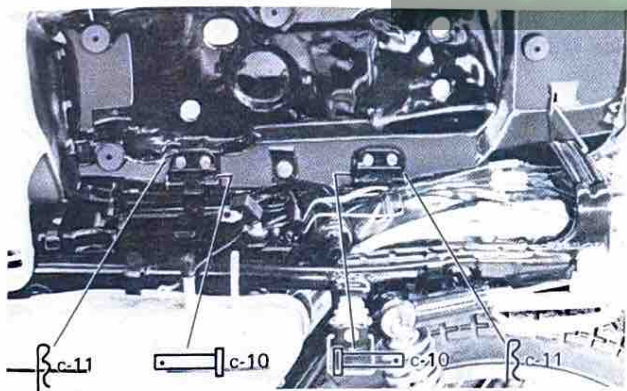

Fig. 50
38. Secure the seat using the clips (c-11), and clevis pins (c-10) as shown in the photo. (Fig. 50)